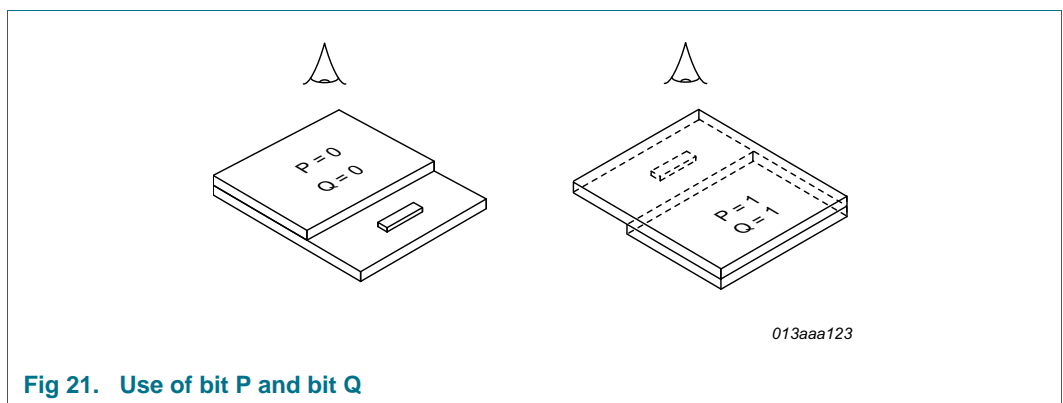

Fig 21. Use of bit P and bit Q
**Combination of bit P and bit Q:** A combination of P and Q allows the display to be rotated horizontally and vertically by 180 degree, as shown in Figure 21. This is useful for viewing the display from the opposite edge.